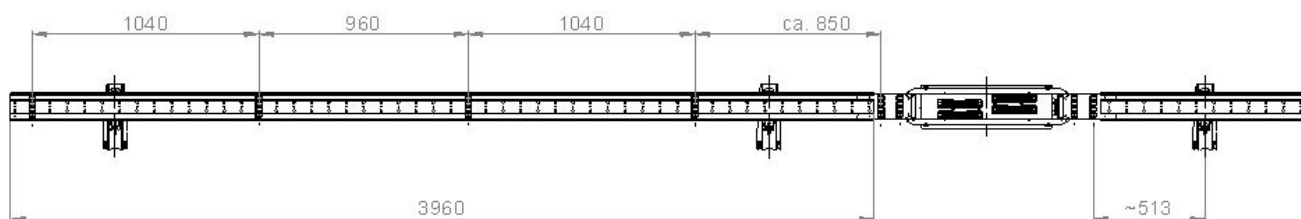
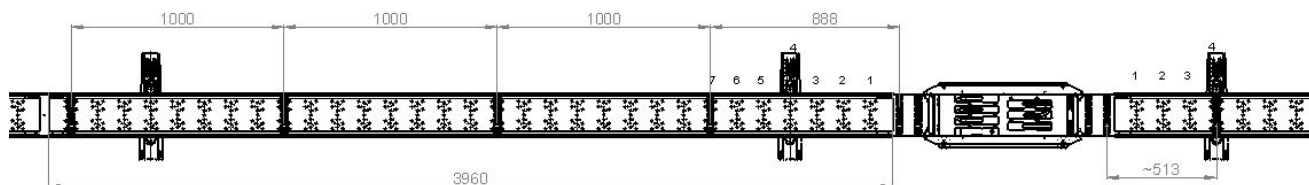

Fig. 12: Distances between hanger clamps 0812 in ProShell 128 support profile system
Fig. 13: Distances between hanger clamps 0812 in ProShell 206 support profile system
- The distances of the hanger clamps are selected as in Fig. 12 or Fig. 13